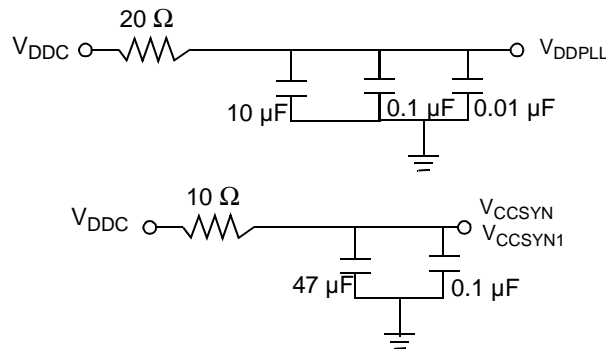

Figure 4-2. PLL Power Supply Filter Circuits
- PLL power supply filtering.** The MSC7113 V_{DDPLL} power signal provides power to the clock generation PLL. To ensure stability of the internal clock, the power supplied to this pin should be filtered with capacitors that have low and high frequency filtering characteristics. V_{DDPLL} can be connected to V_{DDC} through a 20 Ω resistor. V_{SSPLL} can be tied directly to the GND plane. A circuit similar to the one shown in **Figure 4-2** is recommended. The PLL loop filter should be placed as closely as possible to the V_{DDPLL} pin (which are located on the outside edge of the silicon package) to minimize noise coupled from nearby circuits. The 0.01 μF capacitor should be closest to V_{DDPLL} , followed by the 0.1 μF capacitor, the 10 μF capacitor, and finally the 20- Ω resistor to V_{DDC} . These traces should be kept short. V_{CCSYN} and V_{CCSYN1} should be bypassed to ground by 0.1 μF and 47 μF capacitors located as closely as possible to the device package.